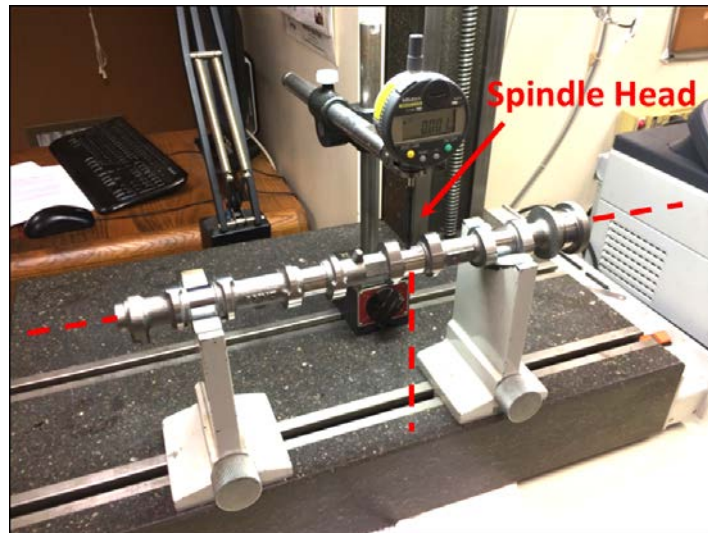

Figure 14 - Correct Positioning of Dial Indicator for Journal Run-Out Measurements
- 9.3. Place a dial indicator next to the camshaft so that the spindle head is in contact with **Journal #3** and is orthogonal to the axis of the camshaft (Figure 14).